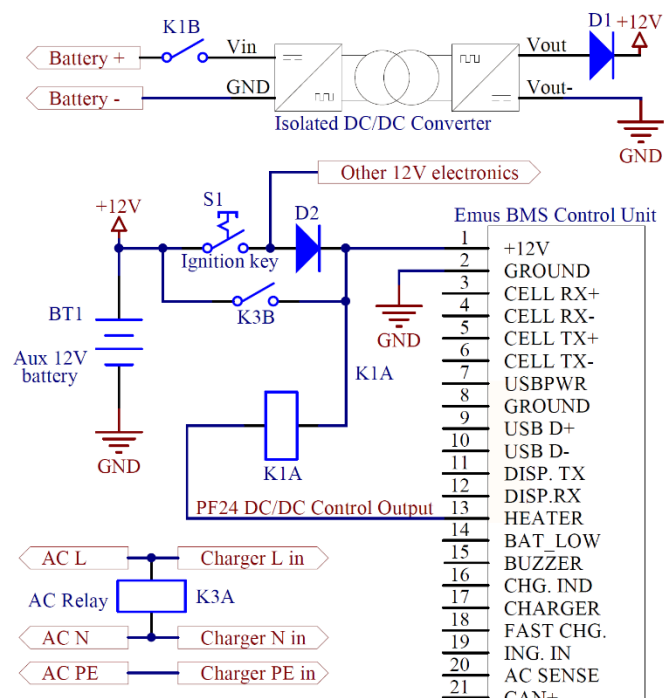

Figure 0.3 Power supply strategy 2
2. In applications that do not guarantee constant grid power availability, yet do not require the battery to be in operation constantly either (i.e. various electric vehicles and other mobile application), it is recommended to supply power to the Control Unit and the rest of EMUS G1 BMS components from an auxiliary 12V battery that is charged from the main battery through an isolated DC/DC converter, as shown in the example in Figure 0.3